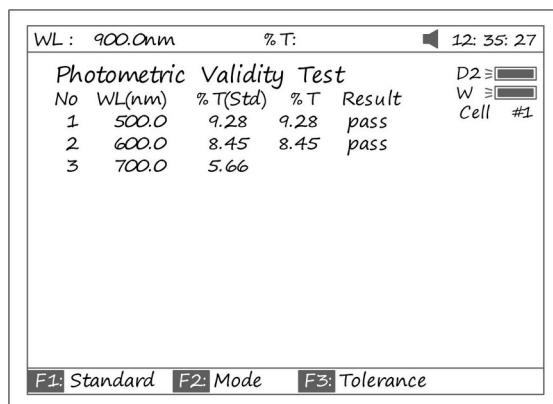

Fig 94
6. Put the sample (calibrated neutral density filter) into Light Path. Press [ START ] to check. The results will be displayed on the screen (Fig 94). If the discrepancy between the results and the calibrated standards is not more than the tolerance, “pass” will be displayed after the test result. Otherwise, “fail” will be displayed.